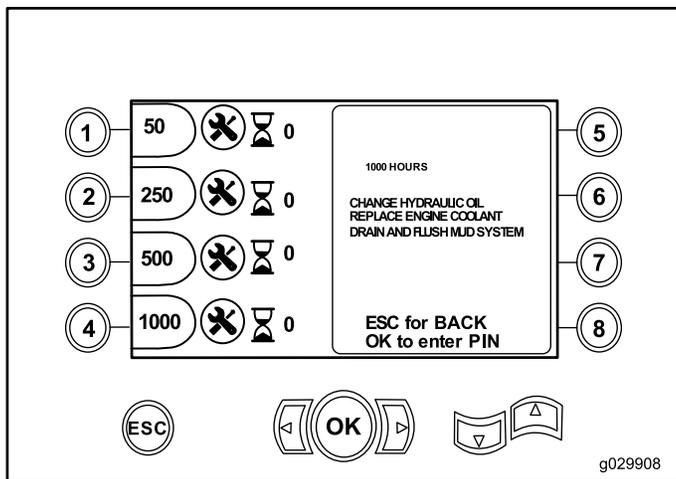

Figure 15
- Button 4—1,000-hours (Figure 15)